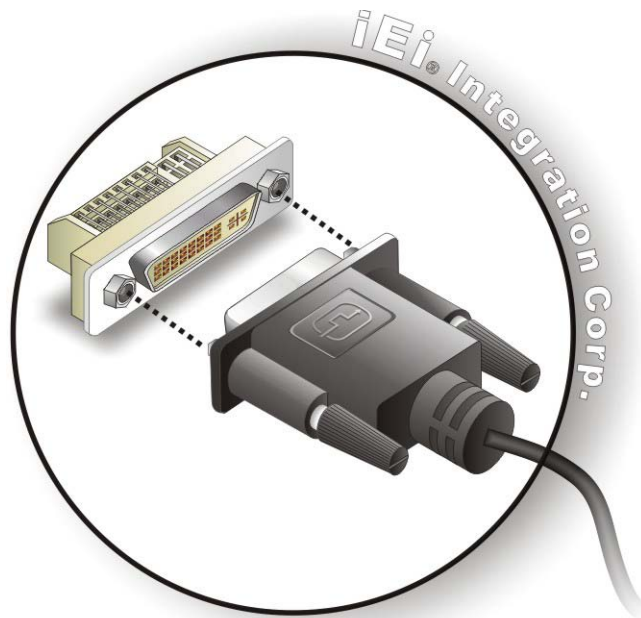

Figure 3-15: DVI Connector
- Step 3:** **Insert the DVI connector.** Once the connectors are properly aligned with the male connector, insert the male connector from the digital display device into the female connector on the TANK-820-H61. See **Figure 3-15**.